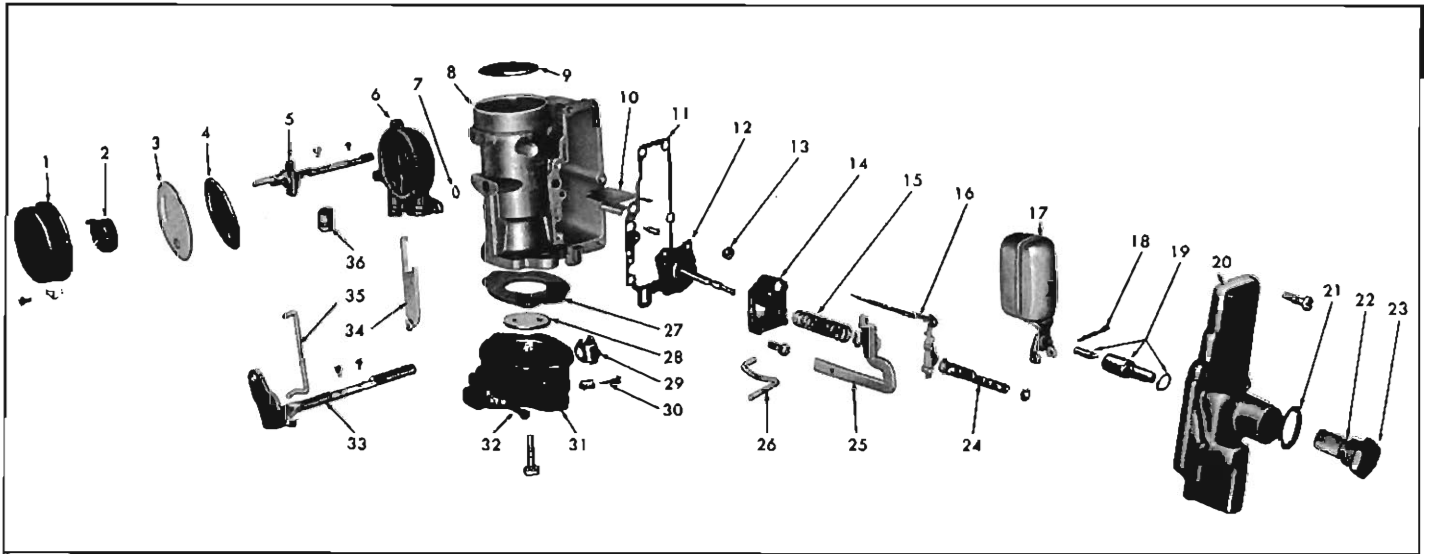

Fig. 9-35—Carburetor (Exploded View)
#### Disassembly (Fig. 9-35)
8. Install metering rod onto the metering rod arm, hook the spring and install retainer clip (fig. 9-35).